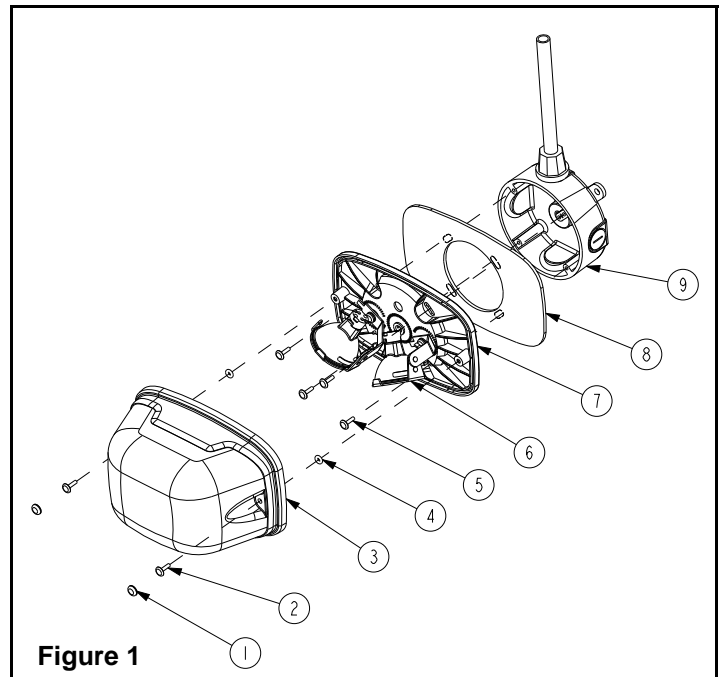

Figure 1
2. Remove the lens (3).
3. Install the junction box on the wall or ceiling (9).
4. Install the gasket (8) on to the back plate(7).
8. Before installing the lens, make sure there is no particles on the gaskets, this can affect sealing. Secure the lens to the back plate with the screws provided. Make sure the o-rings (4) are installed between the lens and the back plate, as shown in figure 1.